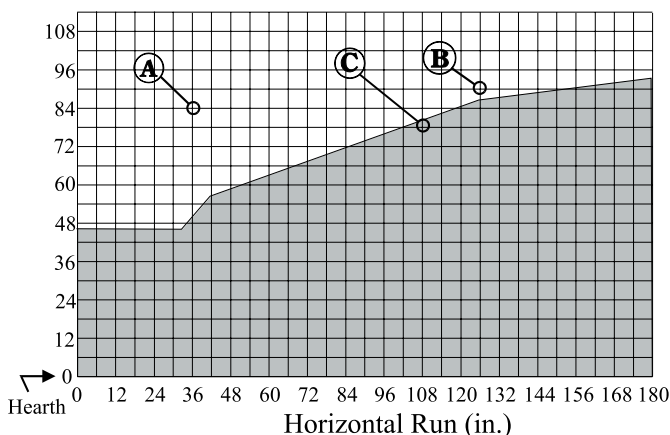

Figure 22a. H34DL Multi-Elbow Venting Graph. (Applicable Models)
- your vent run must fall within the limits set by Figure 22a
Measure the vertical height from the fireplace hearth to the centre of the termination and the horizontal run from the fireplace flue collar to the wall flange of the termination. Plot on the Venting Graph (Fig. 22a) with an 'X'.
Venting runs *must* fall within the limits set by the venting graph (see Figure 22a).
For **H34DL** distance 'H' must be a minimum of 46". For **H38DL** and **H42DL** distance 'H' must be a minimum of 50". The vent run must comply with figure 22a.